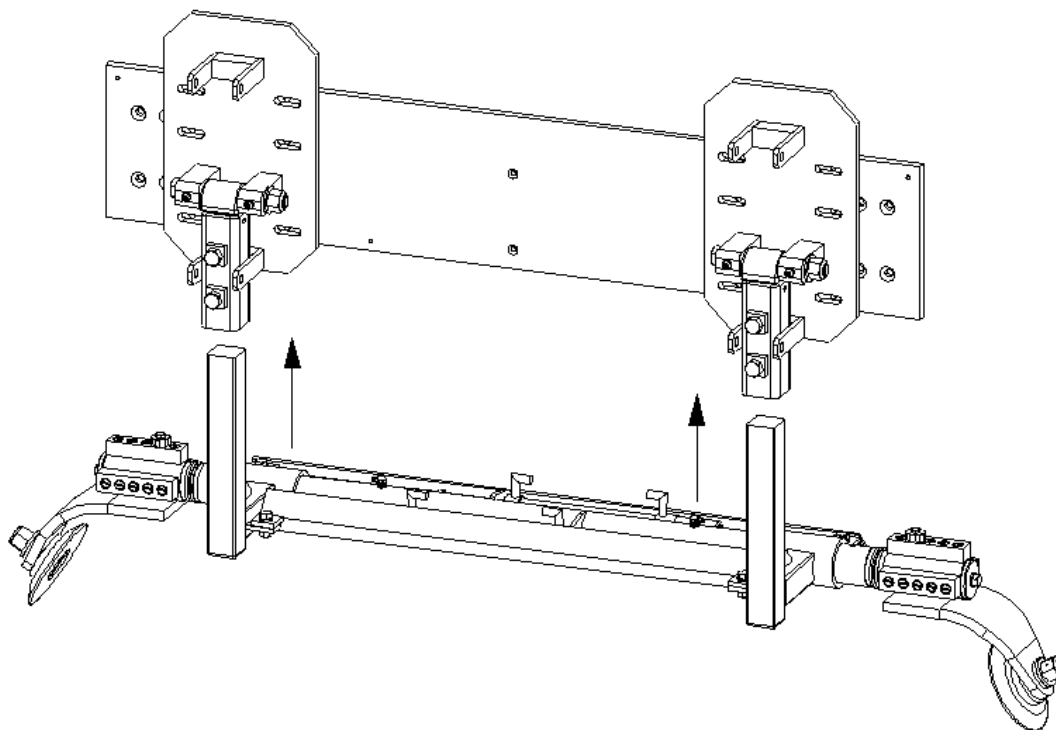

Figure 12 - Gauge Fitment
2. After the mounting plate and clapper boxes have been installed and aligned, the remaining gauge assembly can be put in place as described by Figure 12 below.